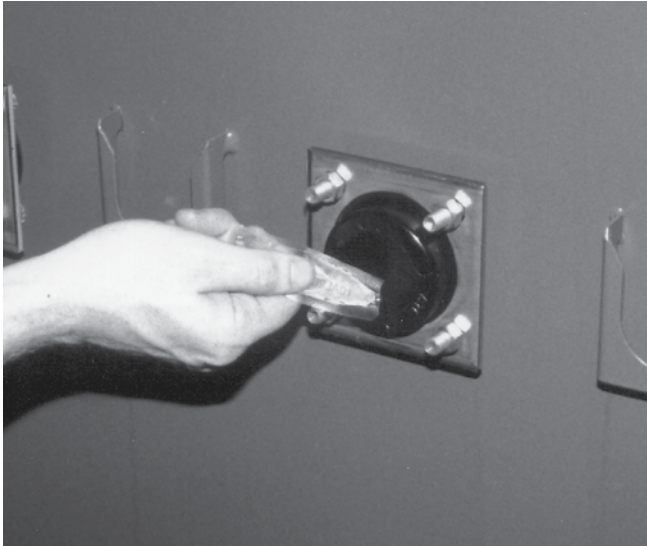

Figure 1. Clean and lubricate interfaces of bushing well.
- Clean bushing well and apply a thin uniform coating of silicone lubricant. (See Figure 1.)